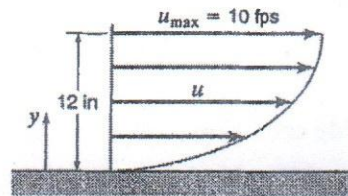

Figure 1
- 1(a) What is viscosity of fluid? Derive the Newton's equation of viscosity of fluid. (08)
- (b) Define absolute pressure and gauge pressure. How are they interrelated? (04)
- (c) Assuming a velocity distribution as shown in Figure 1, which is a parabola having its vertex 12 inch from the boundary, calculate the velocity gradient for  $y = 0, 3, 6, 9,$  and 12 inch. Also calculate the shear stress in  $\text{lb/ft}^2$  at these points if the fluids absolute viscosity is 600 cP. (10)